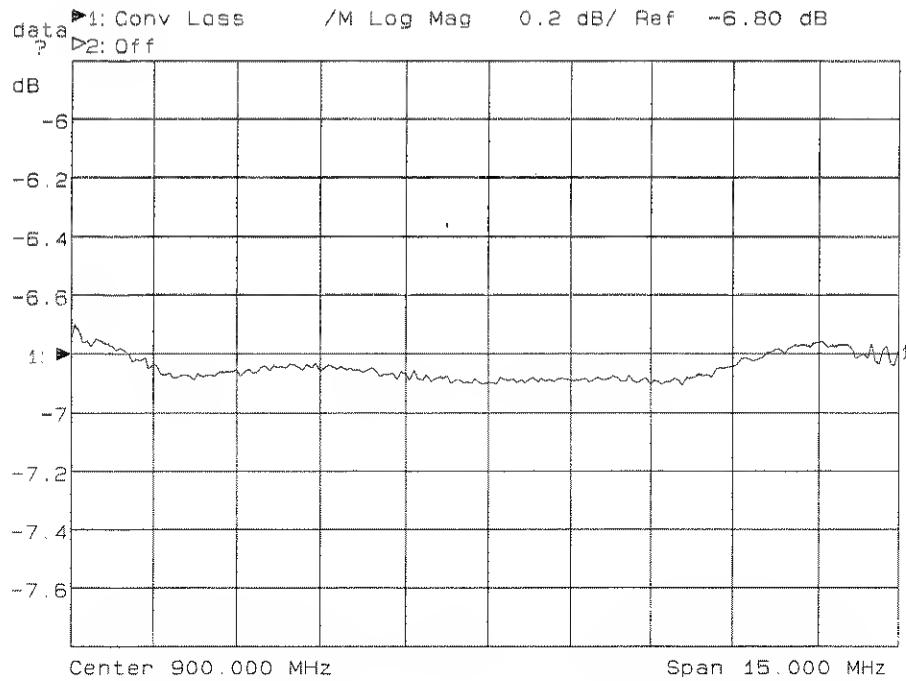

Figure 3-15. Example of a Conversion Loss Measurement
2. To interpret the conversion loss measurement, refer to Figure 3-15 or your analyzer's display if you are making this measurement on your instrument.